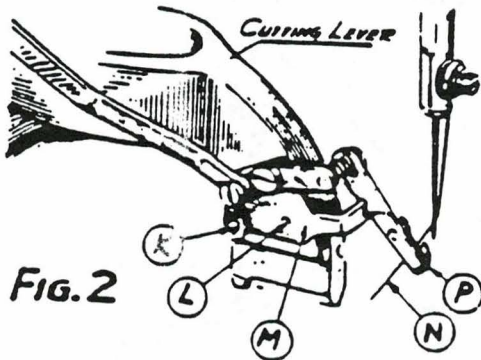

FIG. 2
THE PICK-UP HOOK (P) FIG. 2, DIPS WITH THE CUTTING LEVER AND GRASPS THE UPPER THREAD AND HOLDS IT OUT OF THE WAY FOR THE NEXT BUTTON HOLE. - THE EXTENT OF THE DIP DOWNWARD SO THAT IT WILL NOT MISS THE THREAD (N) IS ADJUSTED BY LOOSENING THE SCREW (K) AND SWINGING THE PLATE (M) UPON ITS FULCRUM PIN (L) AS DESIRED.